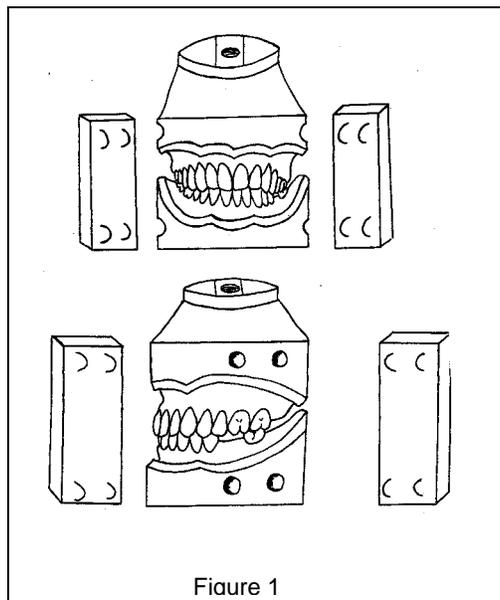

Figure 1
- d) Lateral Stone Straps. One of the most reliable and stable means of communicating the cast relationship to the ADL is by using lateral stone straps. The casts are mounted in the usual manner in the base dental laboratory. Two large half-round dimples are side by side on both sides of the cast base with a large round acrylic bur. Blockout is accomplished with utility wax, or other suitable substance. The cast is painted with a stone separator and dental stone is gently vibrated into the dimples and build up to connect both casts. Plaster is not recommended for strap fabrication because of its low strength. When set, the straps are trimmed on a cast trimmer and labeled with the patient's name with left and right sides marked (See Figure 1). These stone matrices will record the jaw relation which was used to mount the casts and have the advantage of not breaking or distorting easily during shipment. Lateral stone straps can be made between casts that have been diagnostically mounted in an articulator, or between casts that have only been related together with a jaw relation record. Once the straps have been fabricated, send: (1) the maxillary cast with its mounting ring attached (if previously mounted via a facebow), (2) the mandibular cast and (3) the paired stone straps. The mandibular cast should be unmounted. Be sure to include the articulator type and condylar control settings. Do not send the articulator itself to the ADL unless you have no other method to meet requirements.